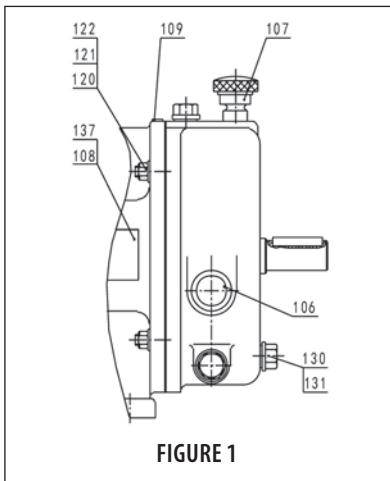

FIGURE 1
See Figure 1. Unscrew drain plug (130), loosen air strainer (107) and drain lubricating oil from gear box (04). Collect the lubricating oil in a suitable container. Lift off gear box (04) after lock nuts (121) have been removed.